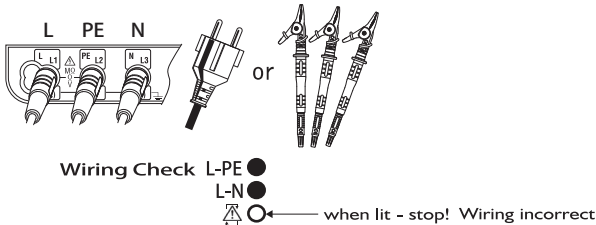

Fig.39
- Insert the Test Lead into the instrument. (Fig.39)
- After the connection, ensure that the symbols for Wiring check on the LCD are in the status indicated in Fig.39 before pressing the test button.
If the status of the symbols for Wiring check differ from Fig.39 or ▲○ symbol is indicated on the LCD, DO NOT PROCEED AS THERE IS INCORRECT WIRING. The cause of the fault must be investigated and rectified.